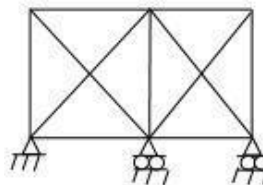

Figure 1.3
- Calculate the degree of redundancy and degree of freedom for Figure 1.3